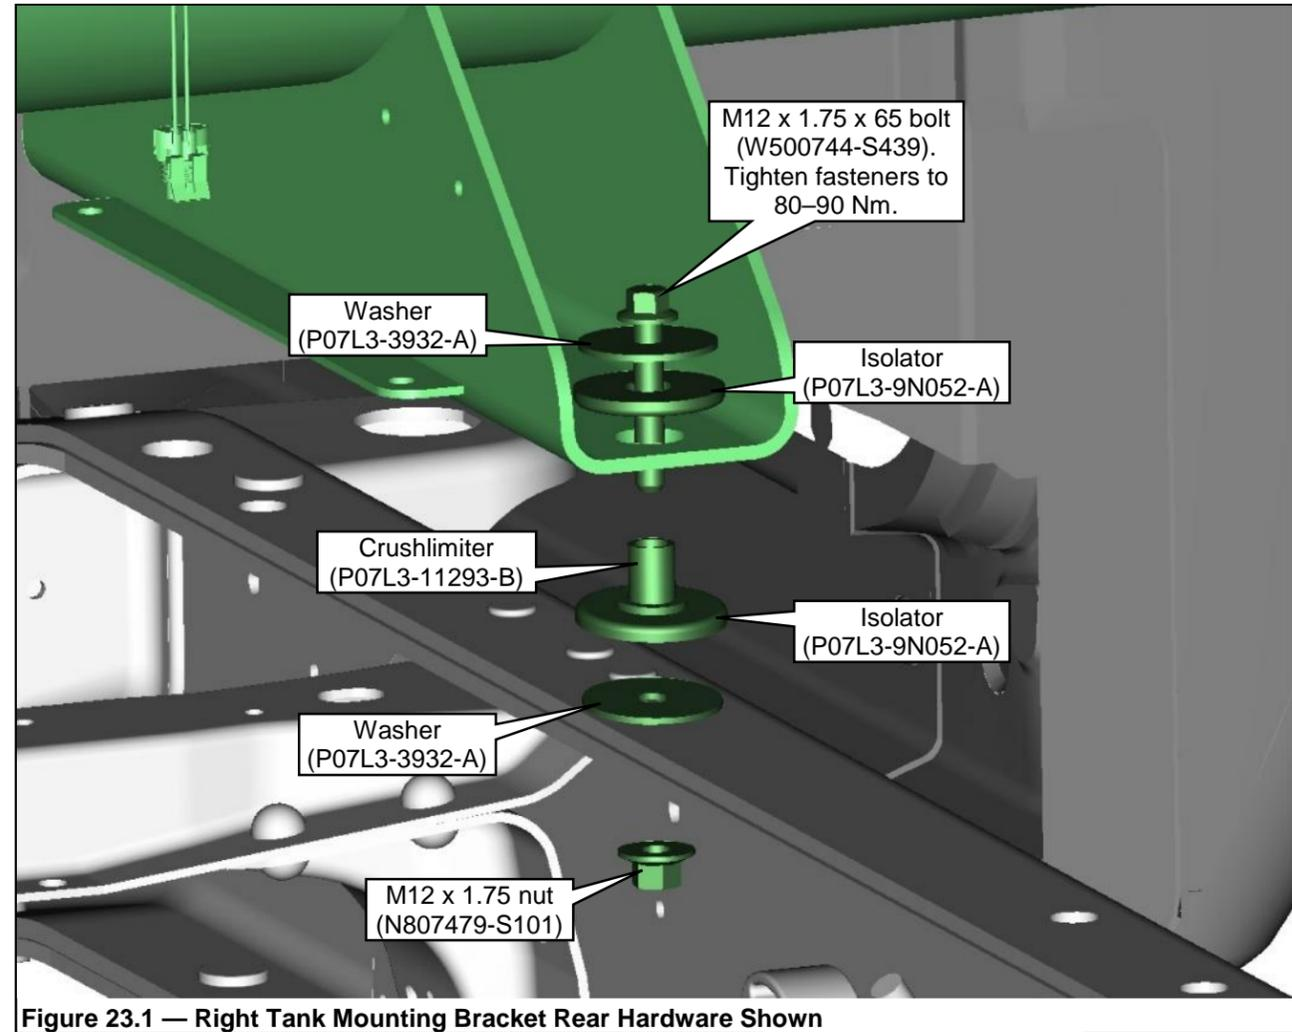

Figure 23.1 — Right Tank Mounting Bracket Rear Hardware Shown
Note: The tank mounting hardware (**Figure 23.1**) is the same for the two mounting holes of each bracket. The mounting hardware is found in hardware kit P12EB-TANK-B.
- Install the M12 x 1.75 x 65 mm bolts with upper washers and upper isolators onto the tank mounting brackets with bolts through the holes. Install the crushlimiters and lower isolators under the tank mounting bracket where the bolts protrude. **Note:** The lower isolators and crushlimiters can be installed when the tank is close to the frame rails to prevent them from falling. **Figure 23.1.**
- Position the fuel tank over the left and right frame rails. Align the four mounting holes in the tank brackets with the mounting holes in the frame rails. **Figure 23.1.**
- Carefully lower the tank onto the frame rails. Before the tank is fully seated, lift the bolts slightly and slip the lower washers (and crushlimiters and lower isolators) between the brackets and frame rails. Lower the bolts to trap the crushlimiters, lower isolators and lower washers. Slowly lower the tank assembly onto the frame rails until the tank (and hardware) is aligned and seated. Making sure the tank is firmly seated and that all components are correctly aligned. **Figure 23.1.**
- From under the bed, install the four M12 x 1.75 mounting nuts, one each onto the M12 bolts. Thread the nuts onto the bolts hand tight. Tighten the fasteners to specification. **Figure 23.1.**